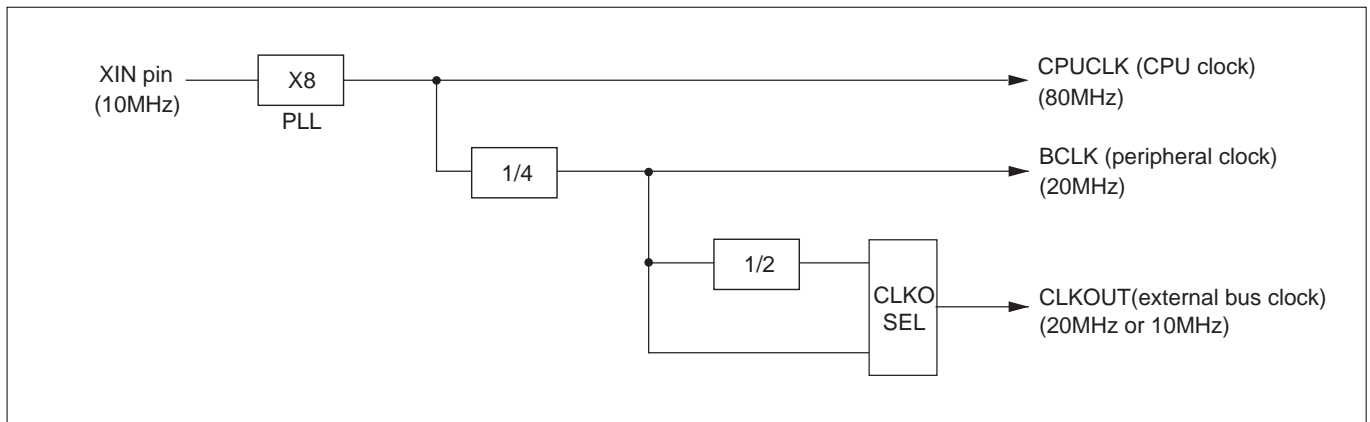

Figure 1.1.1 Conceptual Diagram of the Clock Frequency Multiplier
- The 32185/32186 contains a clock frequency multiplier, which is schematically shown in Figure 1.1.1 below.